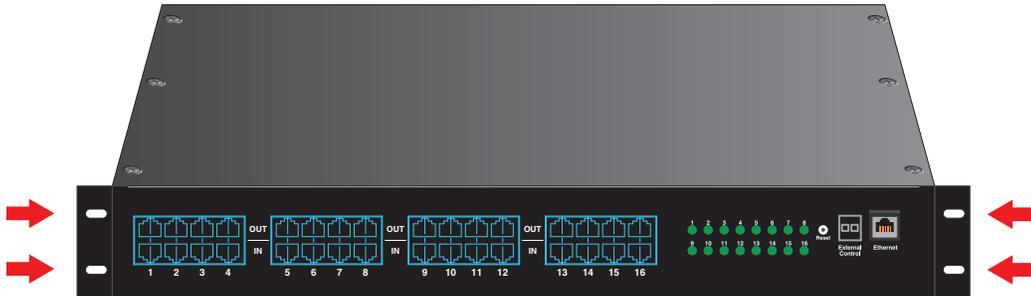

Figure 1: The Enclosure Mounting Holes
2. Locate the rack-mounting holes in the ears of the enclosure. (Figure 1)